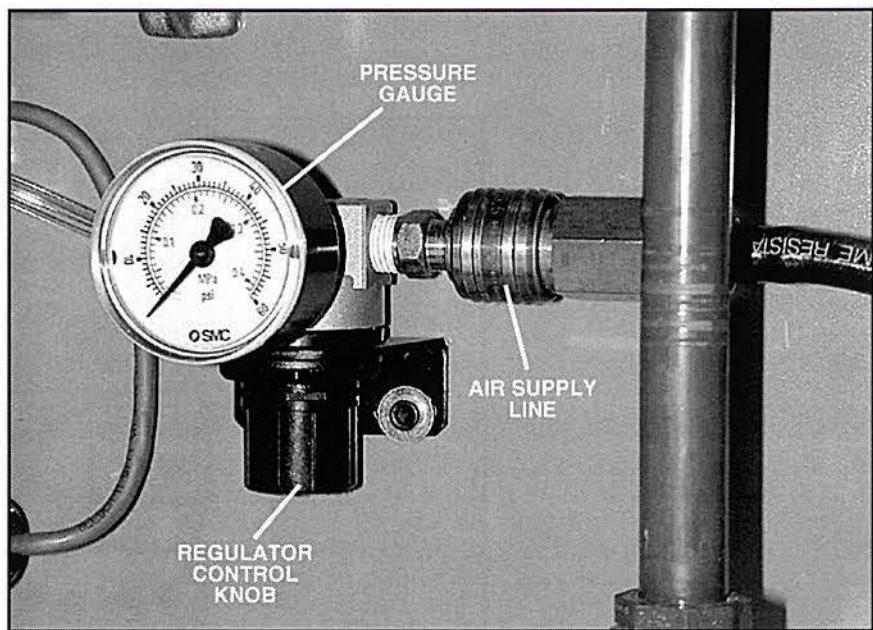

Figure 49. Air Supply Line Connected to the T5552
- A. Determine if the air supply line is connected to the T5552, as shown in figure 49.